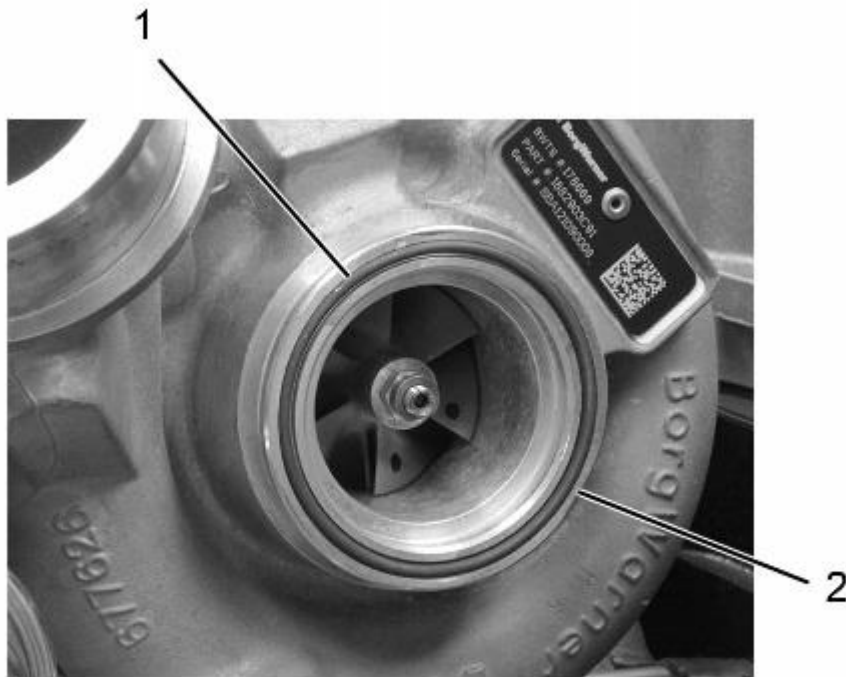

**Figure 15. HP Turbocharger O-Ring.**
**12. Install new O-ring (Figure 15, Item 1) into groove on HP turbocharger (Figure 15, Item 2).**